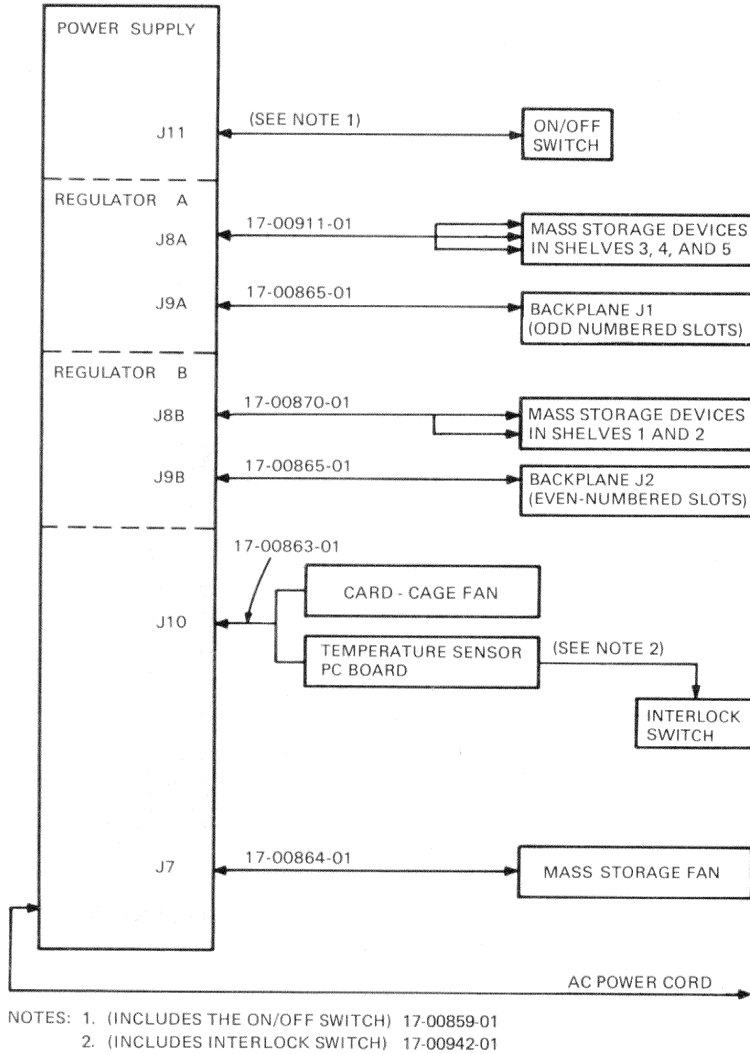

Figure 1-15 Electrical Distribution
1.3.5.1 Electrical Distribution – Figure 1-15 shows the electrical power distribution of the enclosure. The part numbers of the power cables are also shown.